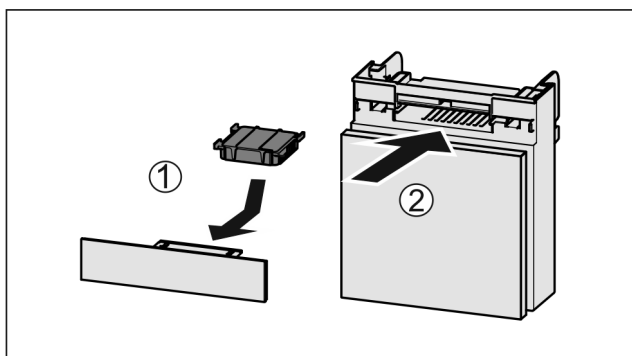

Fig. 85
- Insert the carbon filter as shown in the diagram Fig. 85 (1).
- Push the compartment in Fig. 85 (2).